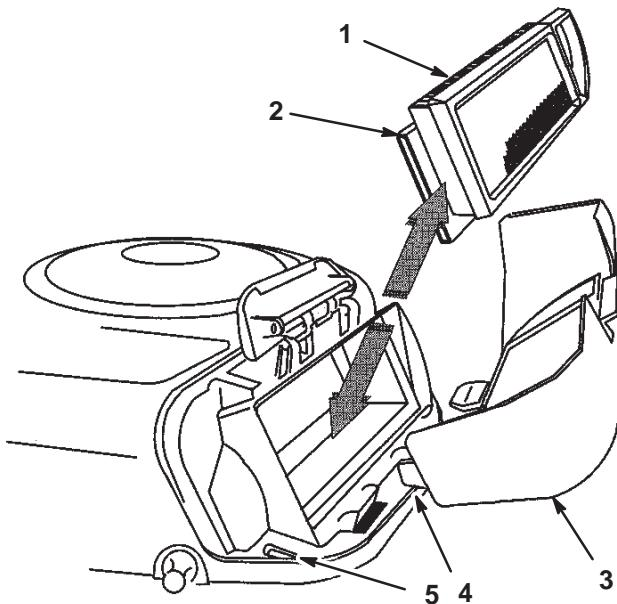

Figure 24
4. Carefully slide the paper element and foam element from the blower housing (Fig. 24).
2. Align the tabs on the air cleaner cover with the slots of the blower housing (Fig. 24). Hook the handle onto the cover and press down on the handle to lock the cover in place.